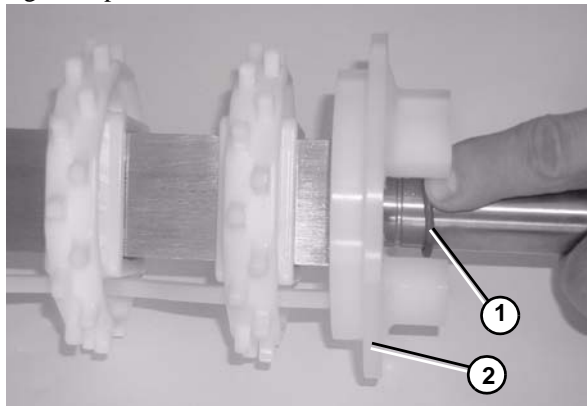

Figure 72
5. Install a flanged puck (**Figure 72, item 2**) onto spindle shaft. Install O-ring (**Figure 72, item 1**) onto spindle in groove provided.